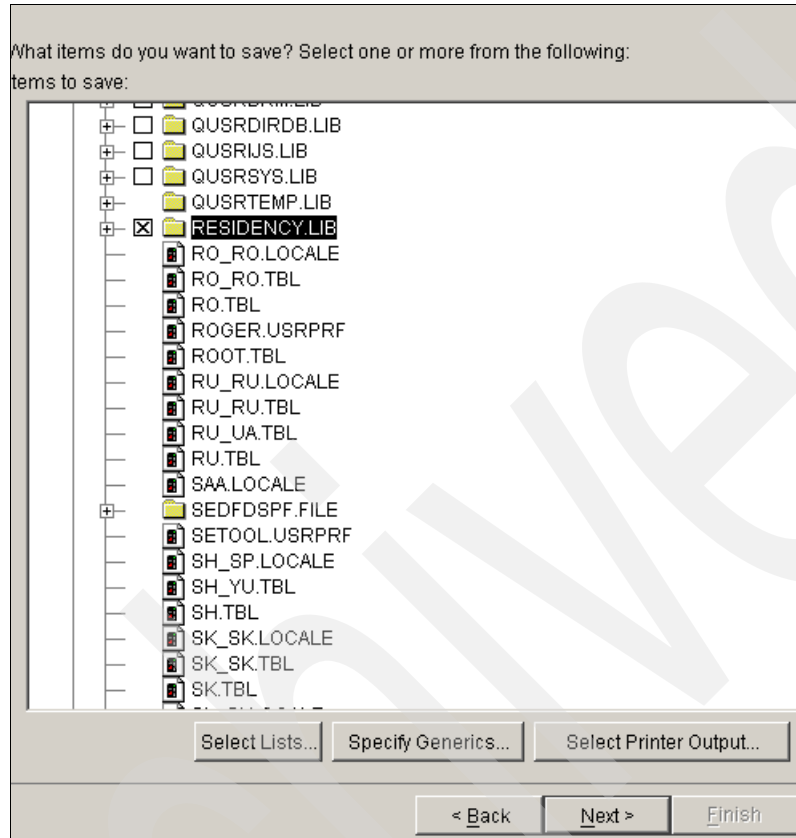

Figure 6-19 New Backup policy wizard - specify object to save
8. In the wizard window that pops up next, you are prompted to select which particular objects are to be saved with this backup policy. In our example we save the library Residency. Since all database libraries are objects in the system library *QSYS*, we first expand *QSYS.LIB*, then we look for the database library **Residency** and select it, as shown in Figure 6-19. After selecting the object to save, click **Next**.